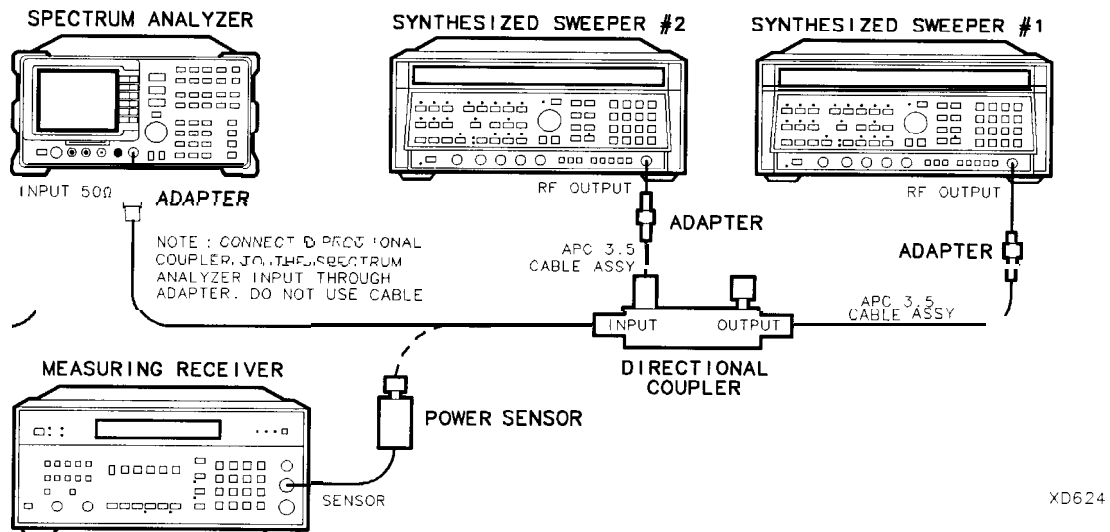

Figure 2-63. Gain Compression **Test** Setup
2. Connect the equipment as shown in Figure 2-63, with the output of the directional coupler connected to the power sensor.
28. Connect the equipment as shown in Figure 2-63.